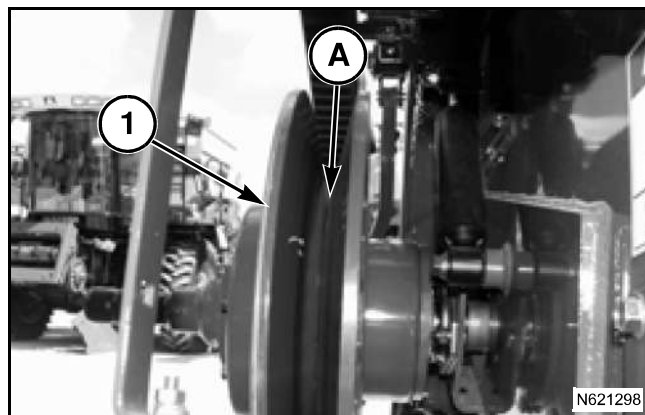

FIG. 111
FIG. 111: To check for the proper tension on the countershaft drive belt, actuate the variable header speed switch to provide the slowest header drive speed. Stop the header drive and the engine. Measure the distance (A) between the sheave halves in the header driven sheave (1) with a feeler gauge.